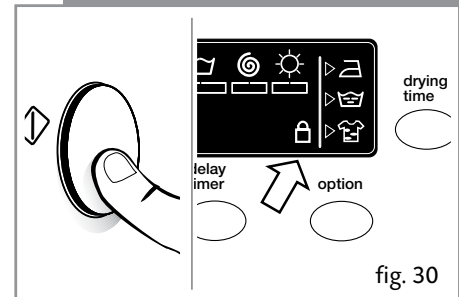

fig. 30
- The display will show the lock symbol if it is activated (Figure 30).